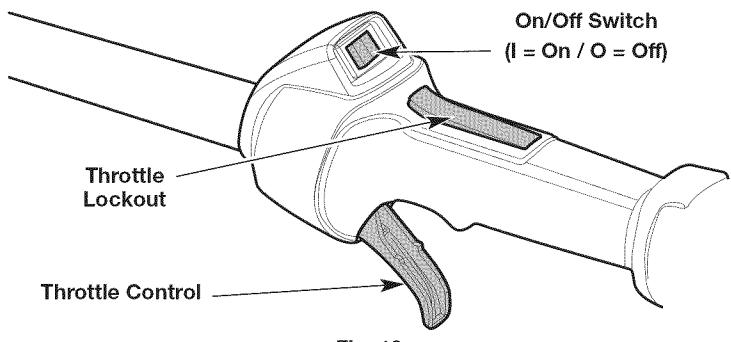
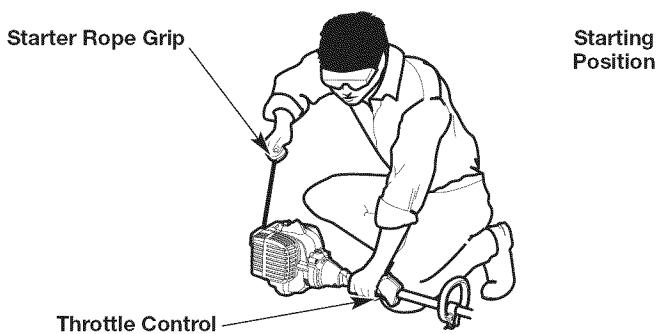

Fig. 12
Fig. 15
WARNING: Avoid accidentally starting the unit. To avoid serious injury, the operator and the unit must be in a stable position when pulling the starter rope (Fig. 15).
NOTE: There is no need to turn the unit on. The On/Off switch is in the **On (I)** position at all times (Fig. 12).
5. Crouch in the starting position (Fig. 15).
6. Press and hold the throttle lockout. Squeeze and hold the throttle control (Fig. 12). Pull the starter rope with a controlled and steady motion **5 times** (Fig. 15).
2. Press and hold the On/Off switch in the **Off (O)** position until the engine comes to a complete stop (Fig. 12).
- NOTE:** There is no need to turn the unit on. The On/Off switch is in the **On (I)** position at all times (Fig. 12).
7. Press and hold the throttle lockout. Squeeze and hold the throttle control (Fig. 12). Run the Speed Start™ accessory for 2 seconds.